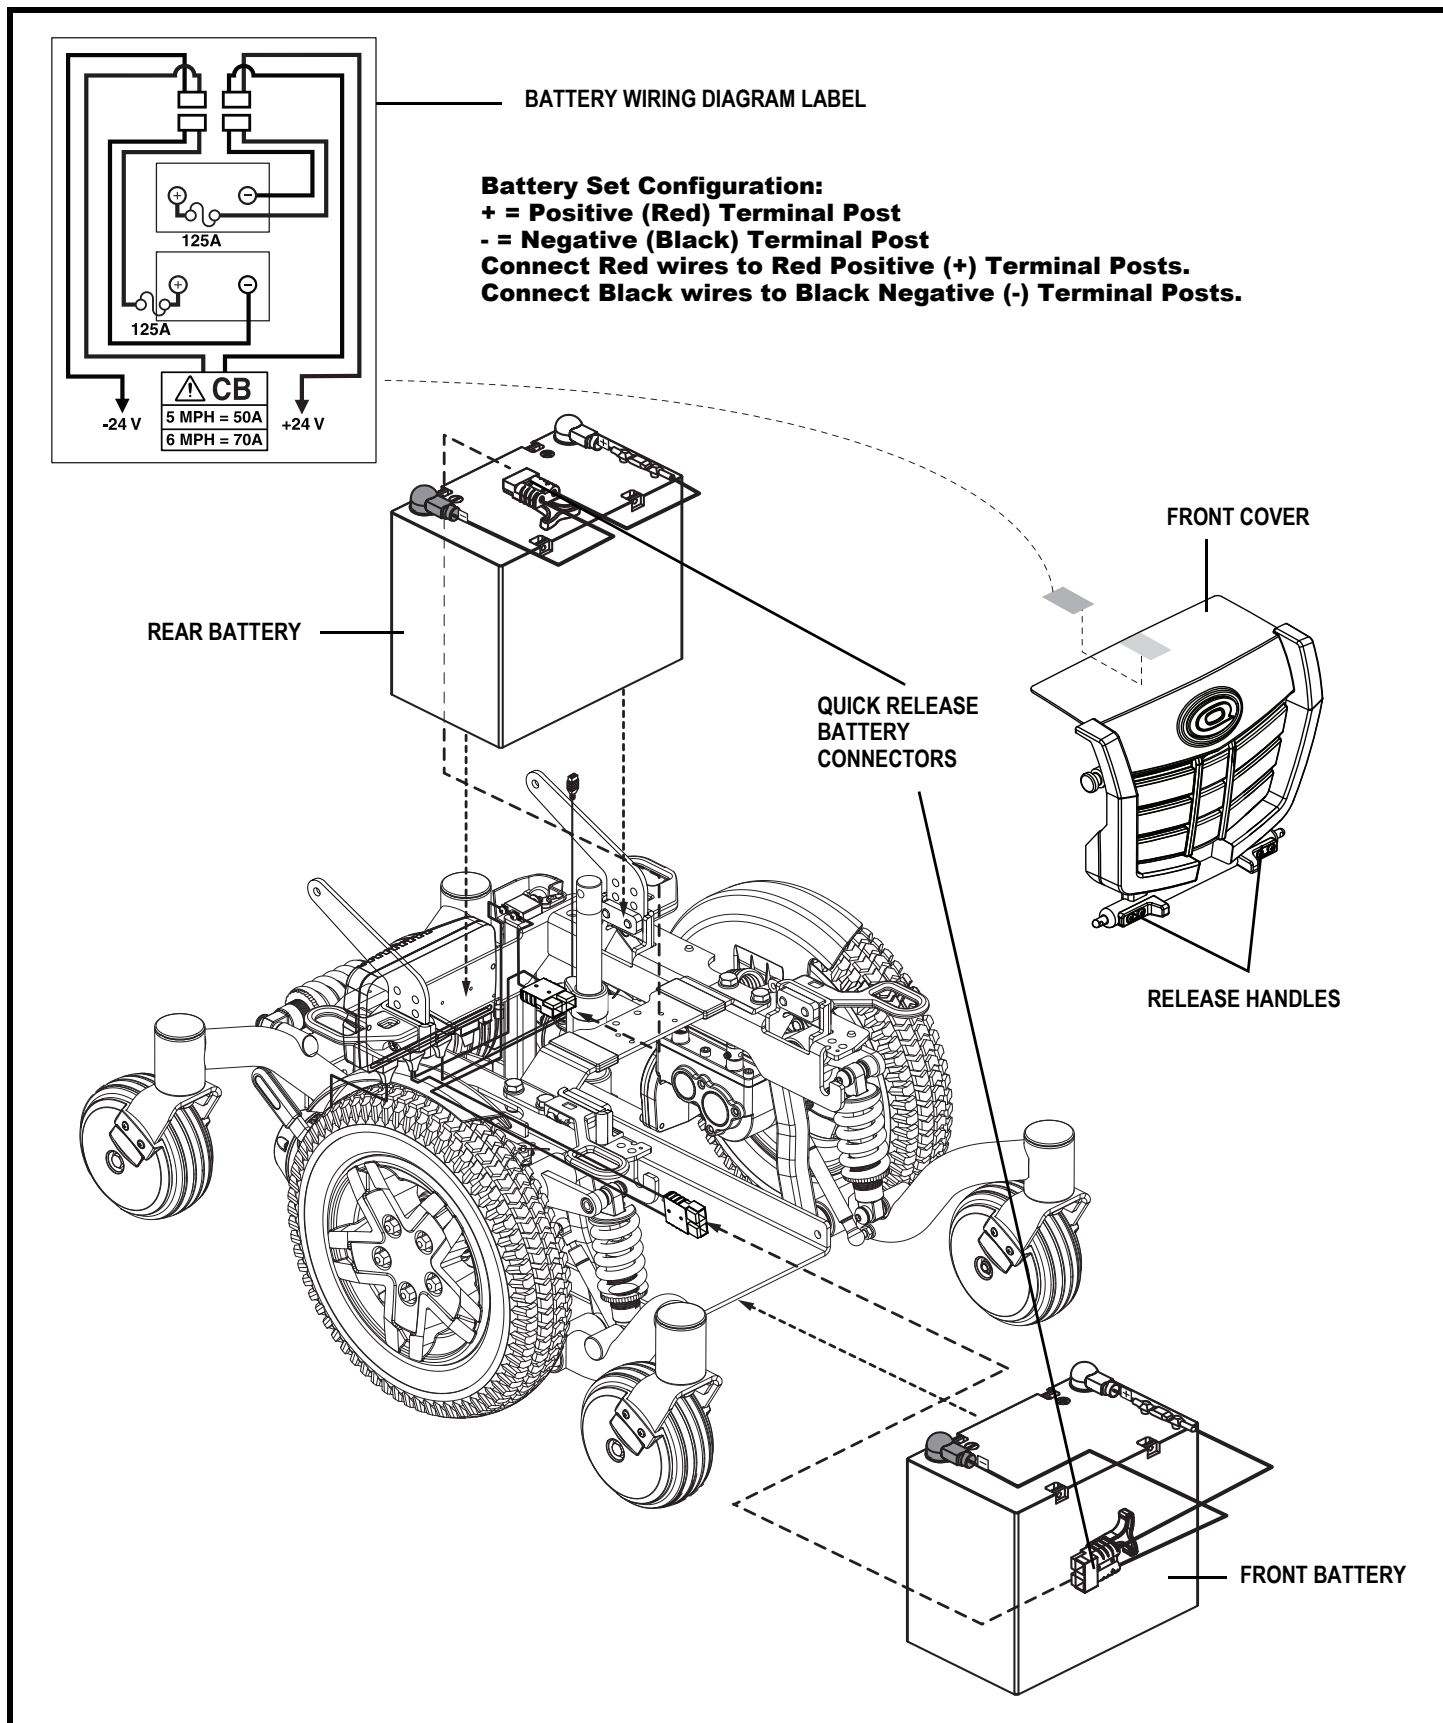

Figure 25. Battery Installation
6. Remove the front cover by squeezing the release handles (**see figure 25**) and lifting the front cover up and away from the power base.
13. Connect the battery harness to the new front battery according to the battery wiring diagram. **See figure 25.**
14. Connect the battery harness to the new rear battery according to the battery wiring diagram. **See figure 25.**